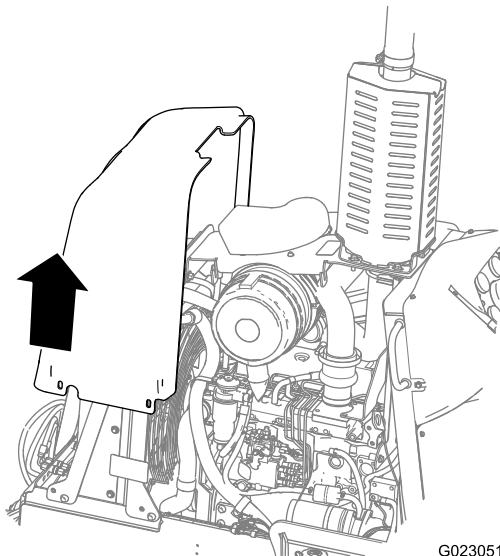

Figure 39
4. Lift the nose panel up and off the machine (Figure 39).
2. Lower the nose panel down and onto the machine (Figure 39).